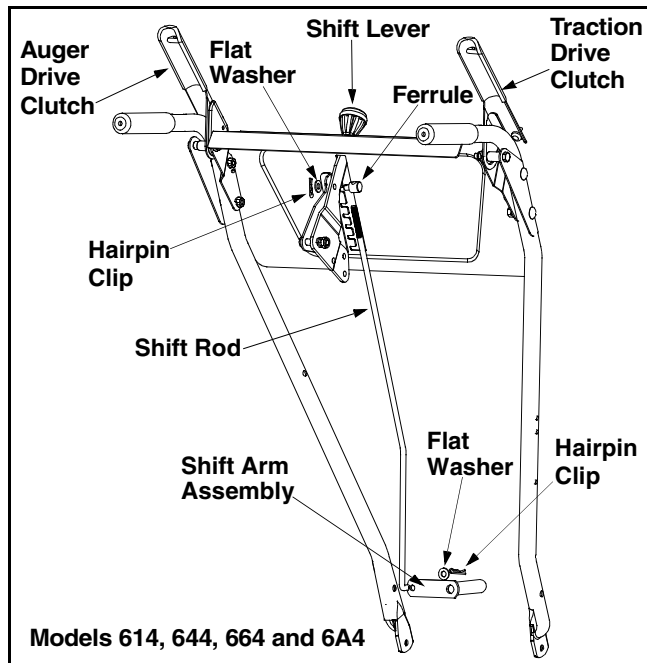

Figure 8
- **Models 614, 644, 664 and 6A4:** Rotate the shift arm assembly counter clockwise as far as it will go. Insert the shift rod through the shift arm assembly. When installed, the shift arm assembly should point left. Secure with flat washer and hairpin clip. See Figure 8.
- **Models 614, 644, 664, and 6A4:** Thread the ferrule onto the shift rod, up or down the shift rod and align with the far hole on the narrow side of the shift lever assembly behind the handle panel. See Figure 8.